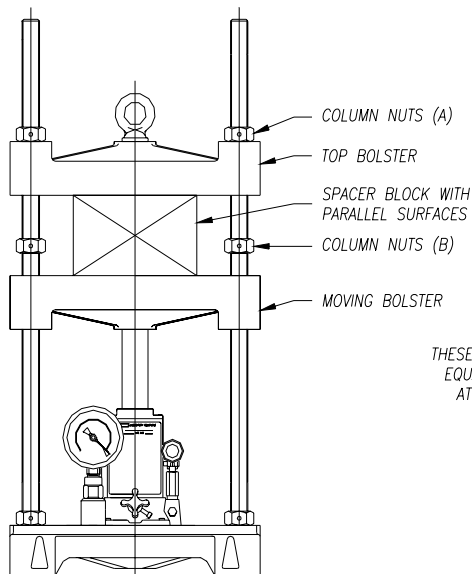
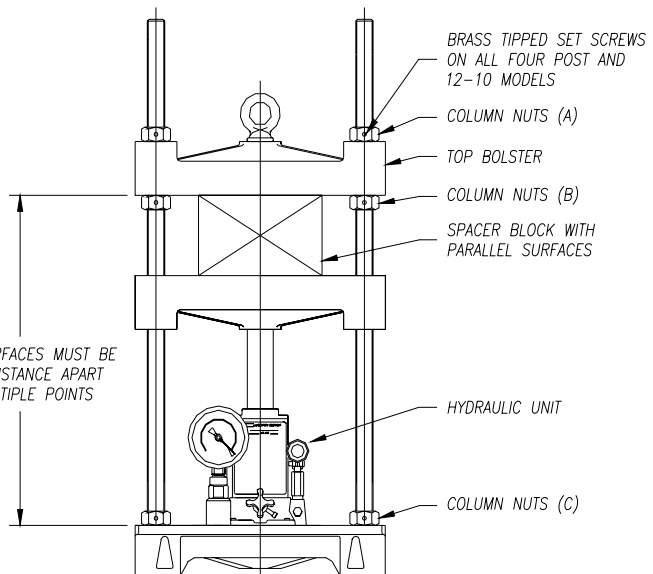

FIGURE 4-5
FIGURE 4-6
5. Insert the spacer block on the moving bolster and raise the top bolster against the upper column nuts (A) (FIG 4-5) and tighten the lower column nuts (B) (Fig 4-6) finger tight against the bottom of the top bolster.
6. Measure and equalize the distance from the bottom surface of the top bolster to the top surface of the base bolster at two points (four points on Four Post presses) as far apart as possible (FIG 4-6). Adjust the lower column nuts (B) as needed to insure parallelism between the top bolster and base bolster. Turn the upper column nuts (A) finger tight against the top bolster.
8. Tighten the lower column nuts (B) against the bottom surface of the top bolster as tight as possible.
9. This is a good time to check the column nuts (C) on top of the base bolster and retighten if necessary.